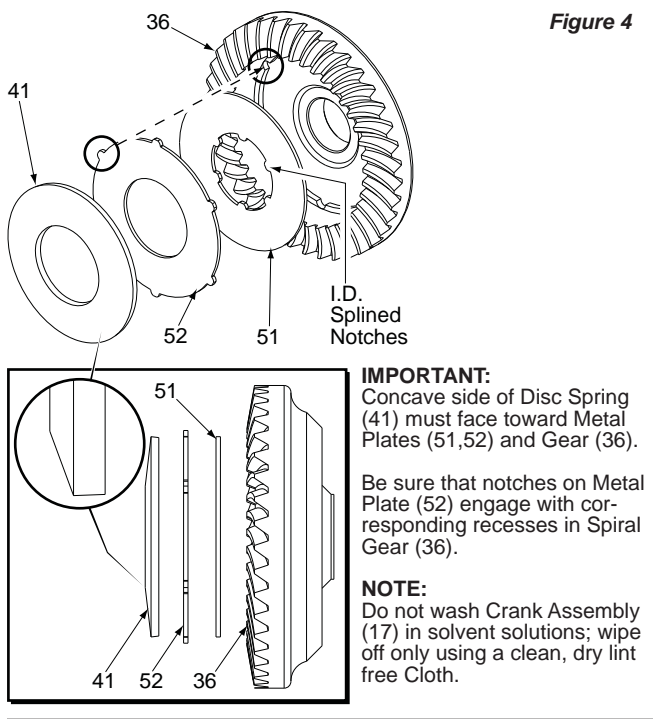

Figure 4
2. Position assembled Spindle/Crank Assembly (17, 39, 8, 46, 53, 68, 37 & 69) into Left Gearcase. (Spindle components should be pre-lubricated with a light coating of grease prior to reassembly). *It is also beneficial to have the Barrel Cam (31) and Extension Spring (44) installed in Left Gearcase (29).* Once the Spindle/Crank Assembly is in the Left Gearcase, position/seat the Front Bushing Carrier (58) over Pivot Pin (6) that's pressed into Left Gearcase Assembly. Secure Orbit Slot (53) to the Left Gearcase Assembly using the three Screws (10) removed in disassembly.
3. Turn Crankshaft/Spindle Assembly by hand, applying a downward pressure until the splines located on the bottom of the Crank Assembly Drive Hub (54) drop down and interlock with the splined notches in the I.D. of Metal Plate (51). Once the two pieces are interlocked together, hold the assembly down tight and turn Gearcase Assembly (29) over to enable the Left Handed Drive Bolt (5) and Spacer (47) to be slid through Ball Bearing (2). (*Before installing Drive Hub Bolt (5) be sure to apply Blue Loctite® to bolt threads.*) Place the 3/16" x 1-1/2" long steel rod used in disassembly, back through the Counter Balance of Crankshaft Assembly (17) and slowly turn Left Handed Drive Bolt (5) in a counter-clockwise direction until 3/16" long steel rod rests against Connecting Rod (59). Before tightening Drive Hub Bolt (5), make sure the raised notches located on the O.D. of Metal Plate (52) are engaged with corresponding recess in Spiral Bevel Gear (36), see Figure 4. Using an inch pound torque wrench and a 3/16" hex key, torque Drive Hub Bolt (5) to 190 in./lbs. or bolt can be tightened using a foot pound torque wrench to 15-16 ft./lbs.